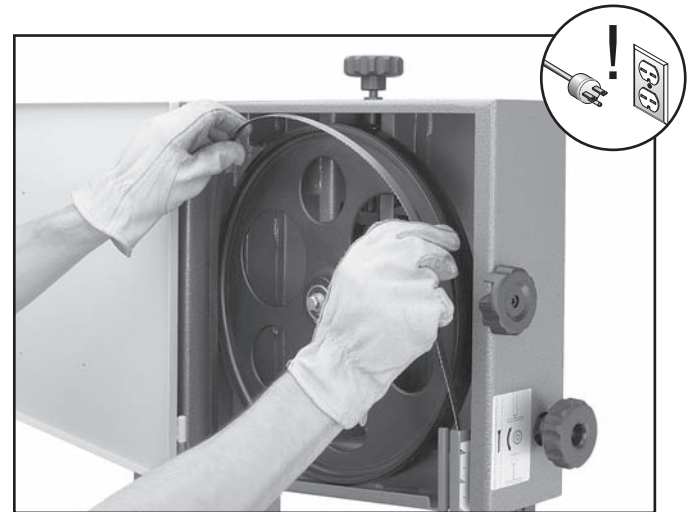

Figure 44. Placing blade on the wheels.
2. Slip the blade through the guides, and mount it on the upper and lower wheels (**Figure 44**).